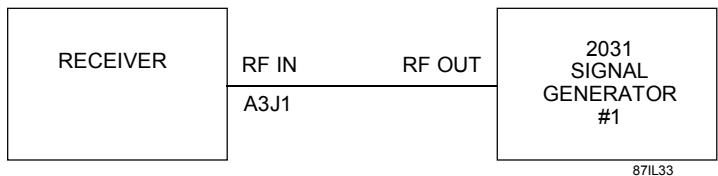

Figure 7-2. Front Panel Test Equipment Connections
1. Connect the WJ8711A Receiver and test equipment as illustrated in **Figure 7-2**.